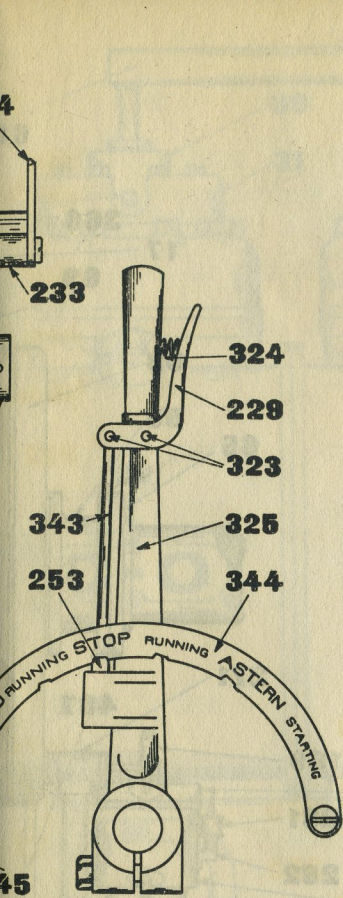

FIG. 3
A strainer (142) of fine mesh wire gauze, to strain the fuel is located in the pump bracket (Figure 3). If necessary this strainer can be cleaned without stopping the engine. To do this, proceed as follows: Shut off the fuel at the pump bracket and immediately open pet cock (295). Now take off the strainer cover (141) pull out the strainer (142) and clean it thoroughly with kerosene or gasoline. While doing this take care that the oil level does not drop too low or the engine will stop. Have a can of clean fuel ready and if necessary pour some into the fuel reservoir, in the pump bracket. Replace the strainer and cover, leaving the pet cock (295) open, and turn on the fuel again. When all the air has passed out thru the pet cock (295) close it.